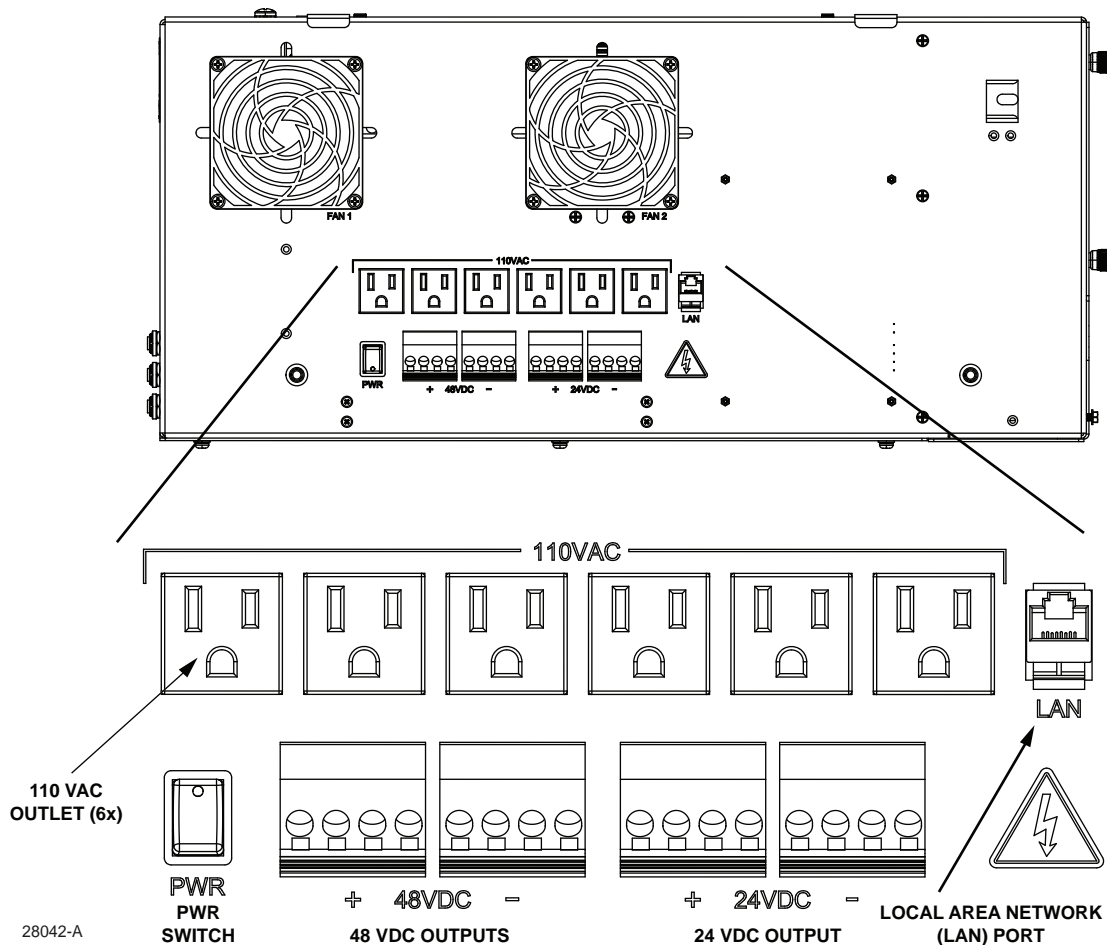

Figure 12. Powered Backplane Features
The user interface of the powered backplane, shown in Figure 12, has six 110 VAC outlets, two 48 VDC terminal blocks, and two 24 VDC terminal blocks, intended for use in powering customer selected equipment such as mini switches, digital antenna systems, and information technology (IT) and operational technology (OT) equipment.